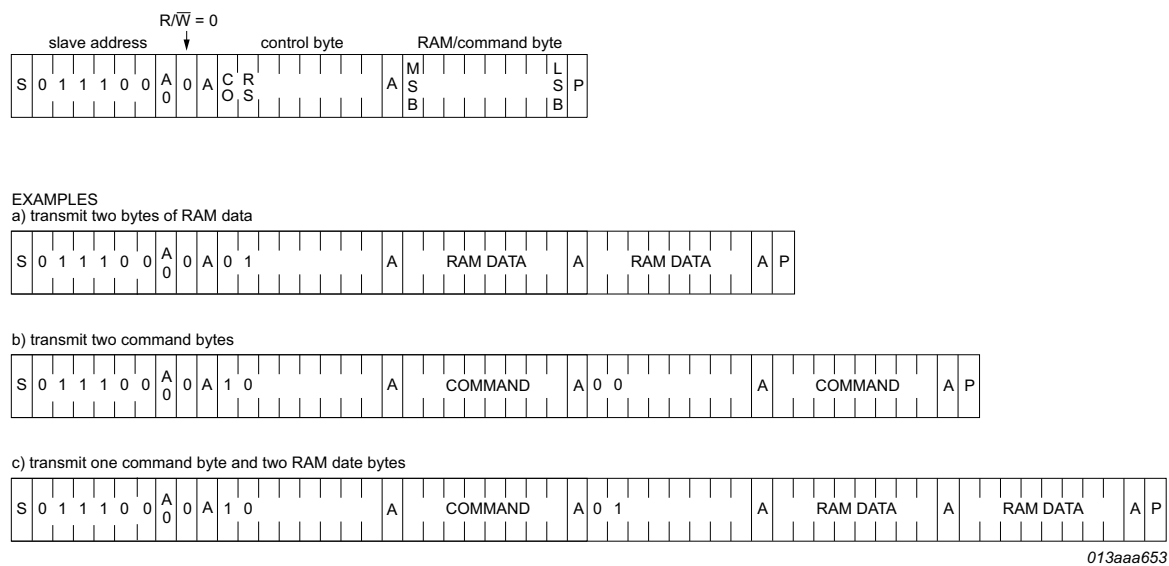

Fig 46. I2C-bus protocol, write mode
The I2C-bus protocol is shown in Figure 46. The sequence is initiated with a START condition (S) from the I2C-bus master which is followed by one of the two PCA8537AH slave addresses available. All PCA8537AH's with the corresponding A0 level acknowledge in parallel to the slave address, but all PCA8537AH with an alternative A0 level ignore the whole I2C-bus transfer.